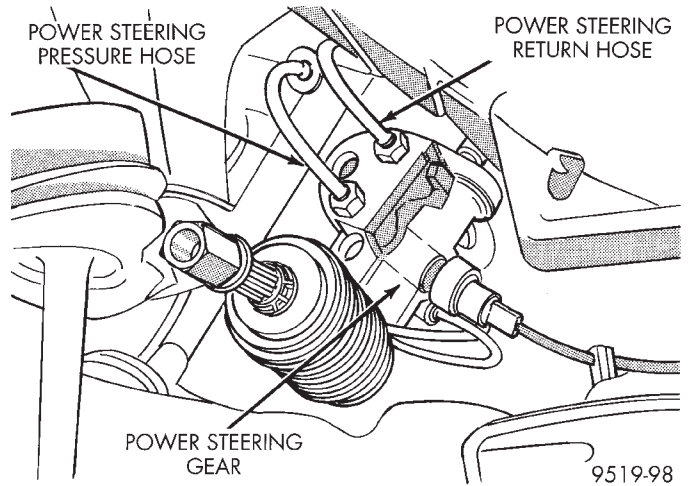

Fig. 29 Power Steering Hose Connections At Steering Gear
(11) Remove the power steering fluid return hose (Fig. 29) from the power steering gear.